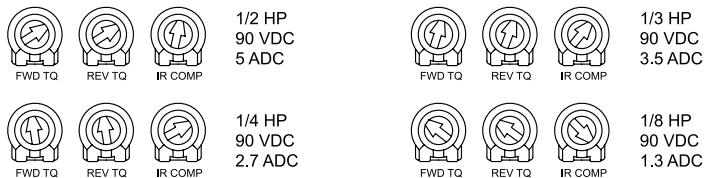

Figure 13. Typical FWD TQ, REV TQ, and IR COMP Settings
If the time it takes to accelerate a load is too long due to the forward torque setting, increase the forward torque setting to 130% of rated motor current. The decision to change the forward torque setting must be made after considering the gearbox and drivetrain ratings, duty cycle, and motor characteristics. See Figure 13 for typical FWD TQ settings.
If the time it takes to accelerate a load is too long due to the reverse torque setting, increase the reverse torque setting to 130% of rated motor current. The decision to change the reverse torque setting must be made after considering the gearbox and drivetrain ratings, duty cycle, and motor characteristics. See Figure 13 for typical REV TQ settings.
Recalibrate the IR COMP setting when using a lower current rated motor. See Figure 13 for typical IR COMP settings, or recalibrate using the following procedure: If the motor does not maintain set speed as the load changes, gradually rotate the IR COMP trimpot CW. If the motor oscillates (overcompensation), the IR COMP trimpot may be set too high (CW). Turn the IR COMP trimpot CCW until the motor load stabilizes.